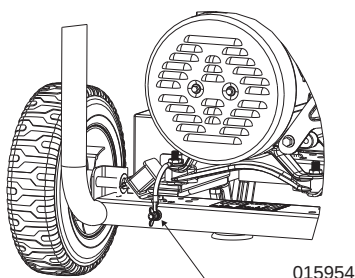

Figure 3-1. Grounding the Generator
See Figure 3-1. The portable generator is equipped with a terminal for the connection of a field grounding electrode conductor where a grounding electrode system is required by NEC Article 250.34 (A). The equipment grounding conductor terminals of the generator receptacles are bonded to the generator frame. Where the generator supplies power to cord and plug connected equipment, like power tools, the frame of the generator is not required by the NEC to be connected to a field grounding electrode. The generator neutral conductor is bonded to the generator frame in accordance with NEC Article 250.34(C).
See Figure 3-1. Where the generator is connected to a manual transfer switch, the transfer switch must also switch the neutral upon transfer to be NEC code compliant (3-Pole switch). A grounding electrode is required to be connected to the generator frame to properly ground the generator. The ground wire connected from the generator terminal/frame to a field ground electrode shall be of equal or larger ampacity than the largest conductor used in the generator. Generac HomeLink manual transfer switches and kits meet this requirement and are recommended for use.